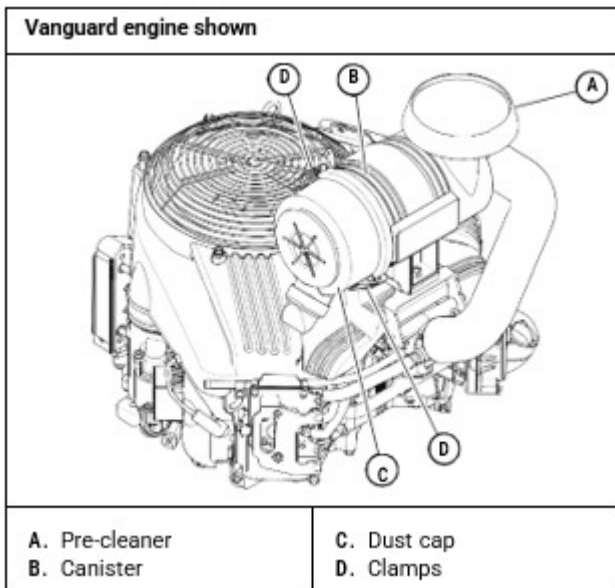
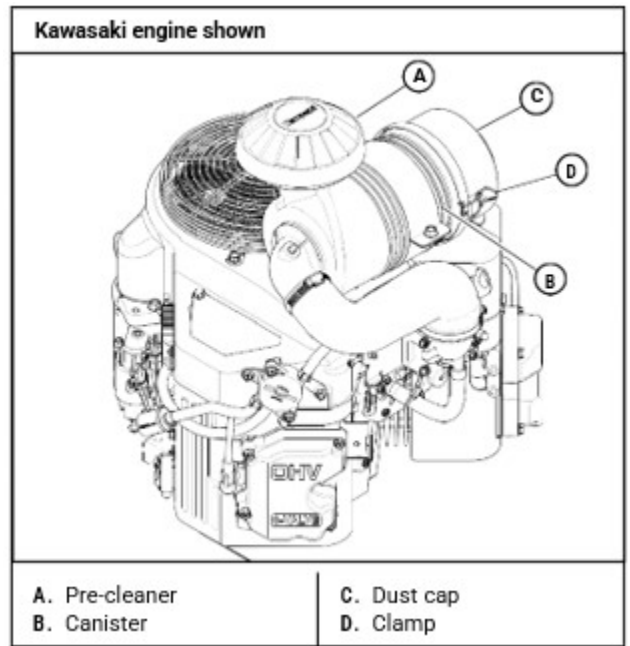

Figure 45
Figure 46
A specially designed dry filter is standard equipment on these units and supplies clean combustion air to the engine. [Figure 45] & [Figure 46]
3. Reinstall the dust cap. Make sure it seals all the way around the air cleaner canister, then tighten the clamps. [Figure 45] & [Figure 46]